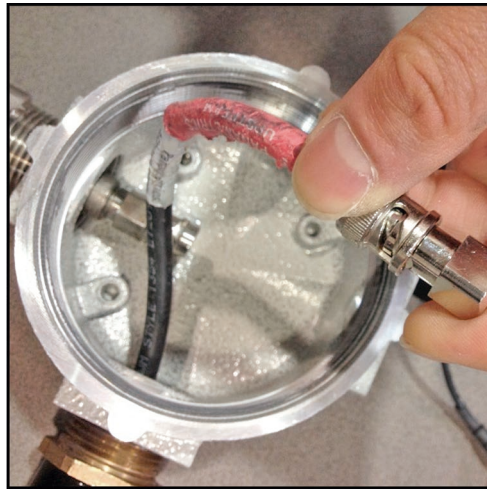

Figure 19: Connecting BNC Plug to the Cable
6. Connect the right angle male BNC plug to the exposed BNC cable from the cable gland assembly, as shown in Figure 19 below.